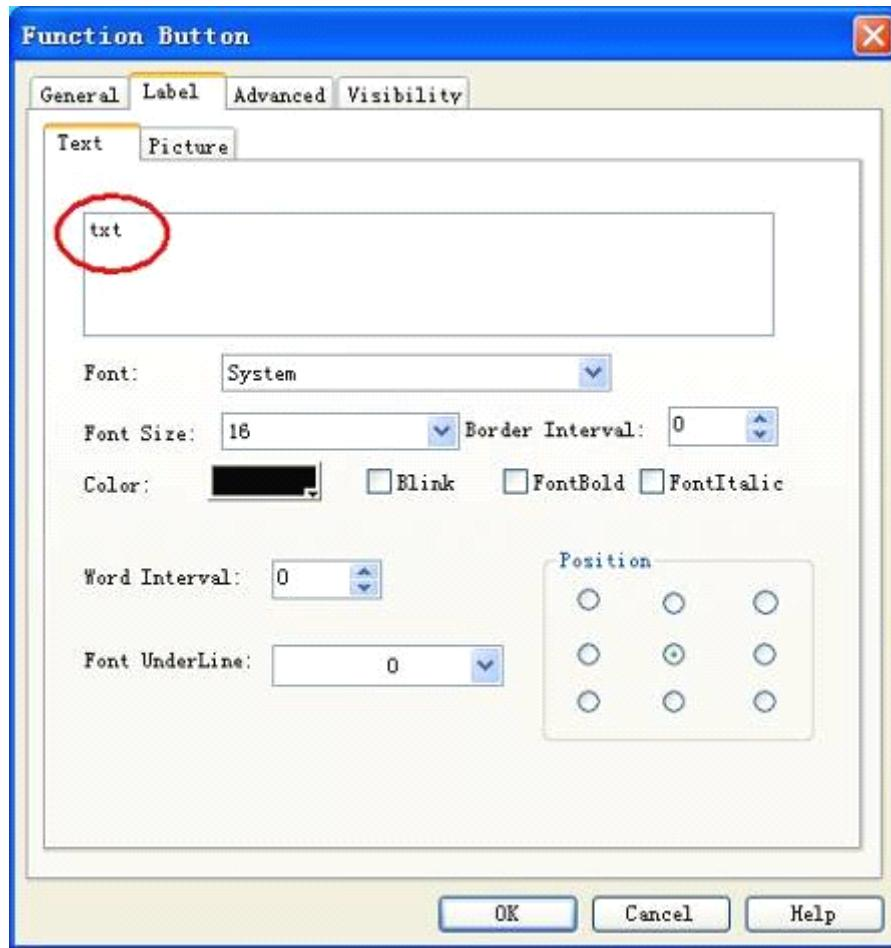

Figure 5-18 (Function Button Property Setting)
- <5>. Select “label” —>”text” in the function button, and input “+” character in the text box as Figure 5-18.